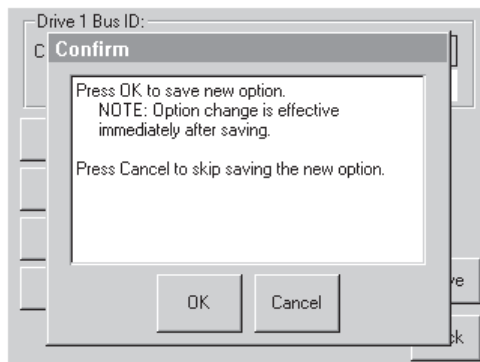

Figure 25. SCSI ID Confirmation screen
7. Select **Save**. A confirmation screen appears on the display as shown in Figure 25.